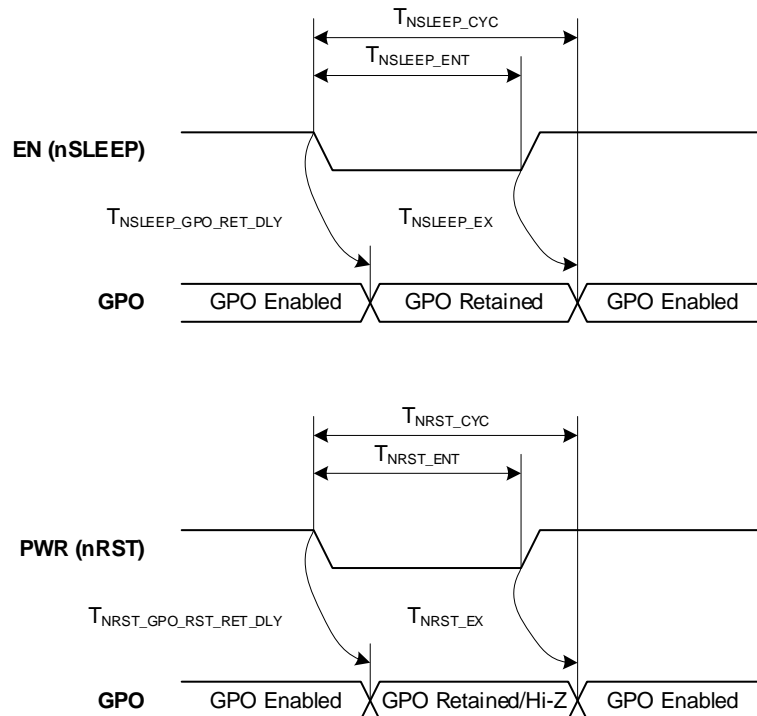

Figure 37. Device On/Off State Cycle Timing Diagram (PWR/EN Pin)
Figure 37 shows the general behavior during nRST (PWR) and nSLEEP (EN) assertion.